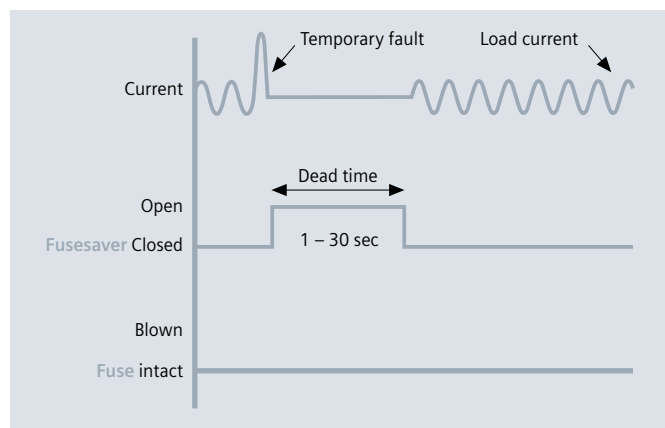

Fig. 4.3-8: Performance with temporary faults
- In this case (fig. 4.3-8, the fault disappears during the Fusesaver's dead time. After closing, the power supply is restored. The fuse did not operate, and the Fusesaver is ready for the next fault. Only the customers on the affected lateral line experience an interruption in power during the Fusesaver's dead time, while all other customers on the feeder, including nearby lateral, did not even notice its operation.